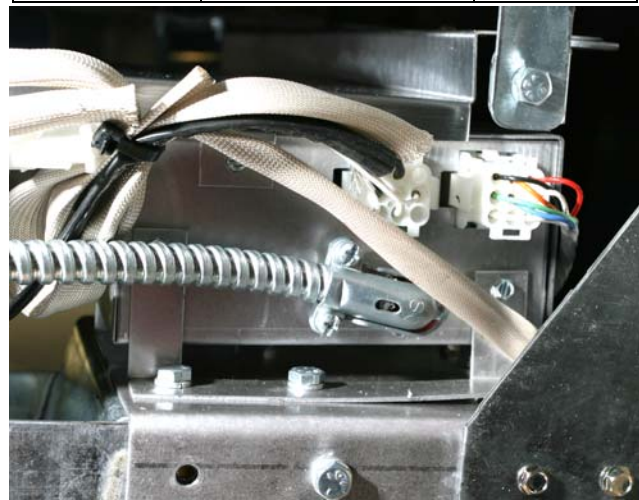

Figure 1: The transformer box is behind a panel on right side of the fryer back.
2. Remove the small panel on the back of the fryer and access the transformer box. **See Figure 1.**